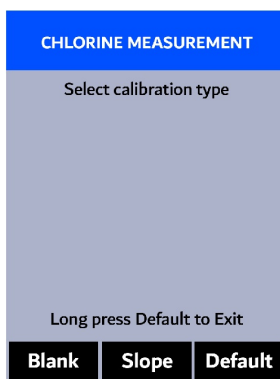

Figure 40.
4. Press **OK** to launch the **CHLORINE CALIBRATION** screen (Figure 40).